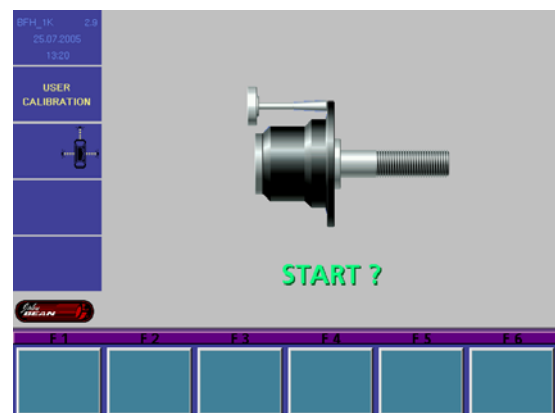

Figure 50
4. After the balancer comes to a stop raise the wheel guard and screw the calibration slug into left side of the flange plate. Lower the wheel guard and press the **“SPIN”** key. The balancer should spin and come to a complete stop. Once the shaft stops the display should display **“OK”** and the speaker sounds the Snap-on **“TüDüLü”**. See Figure 50.